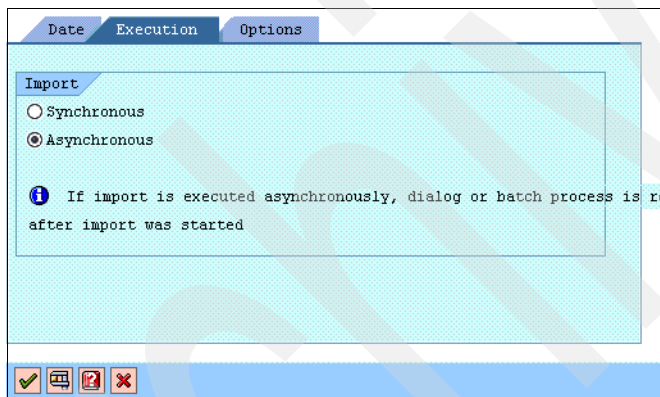

Figure 14-12 Import a change request: Execution selection
- ▶ Figure 14-12 on page 206 shows importing a change request with the *Execution* selection.
Importing a change request with the *Execution* selection as Figure 14-12 shows.